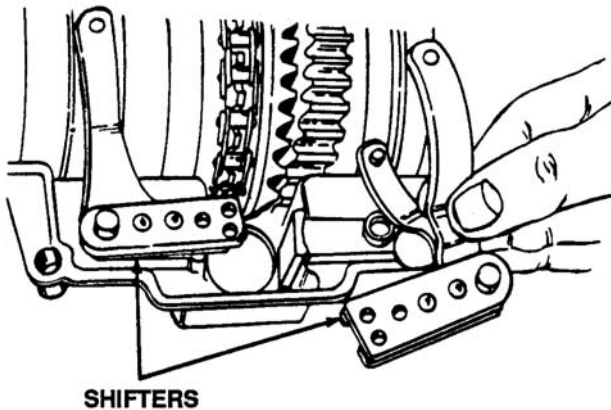

Figure 5-33. Location of Shifters
7. Remove the two shifters and lockout plate (if installed in unit) and dowel pins. Inspect for wear on the lockout plate (if so equipped), shift pins, detent surfaces and dowel pins. Replace if necessary. See Figure 5-33.